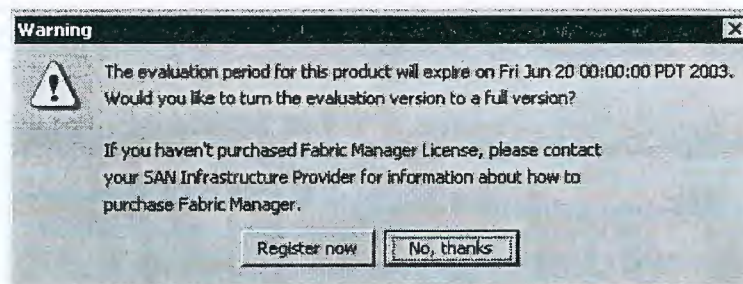

Figure 2-1 Fabric Manager Evaluation Installation Version Warning
Every time you launch Fabric Manager, a warning message notifies you when the evaluation installation will expire, and gives you the option to register Fabric Manager or continue with the evaluation version (see Figure 2-1).
- ◆ Click **Register Now** from the warning message that displays when you launch Fabric Manager every time during the 60-day evaluation period (see Figure 2-1)